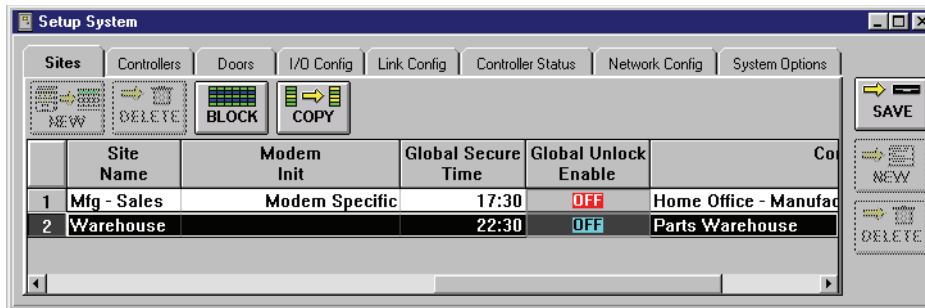

Figure 8-12: Copy Data Rows Selected
3. There are three ways to block select the cells to which data is copied. Use the method you find easiest (see Figure 8-12).